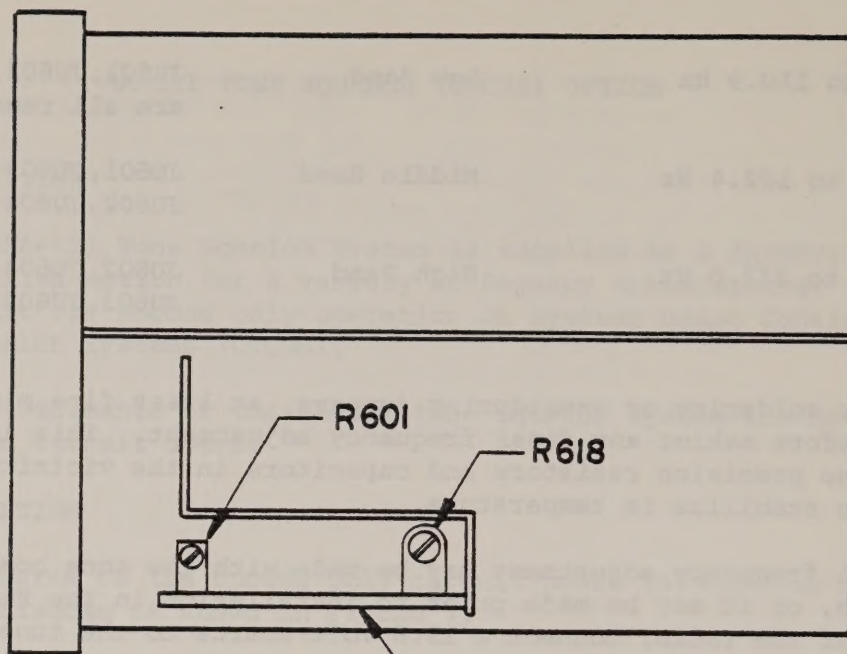

FIG 1
WARNING! Take care to install the tone board properly. Refer to either Fig. 1, 2 or 5 for proper orientation.
2. The shield area that accepts the CTCSS module is located in the transmitter portion, toward the front of the radio. The receptacle for the tone board is located in this shielded area. Refer to Figure 1.